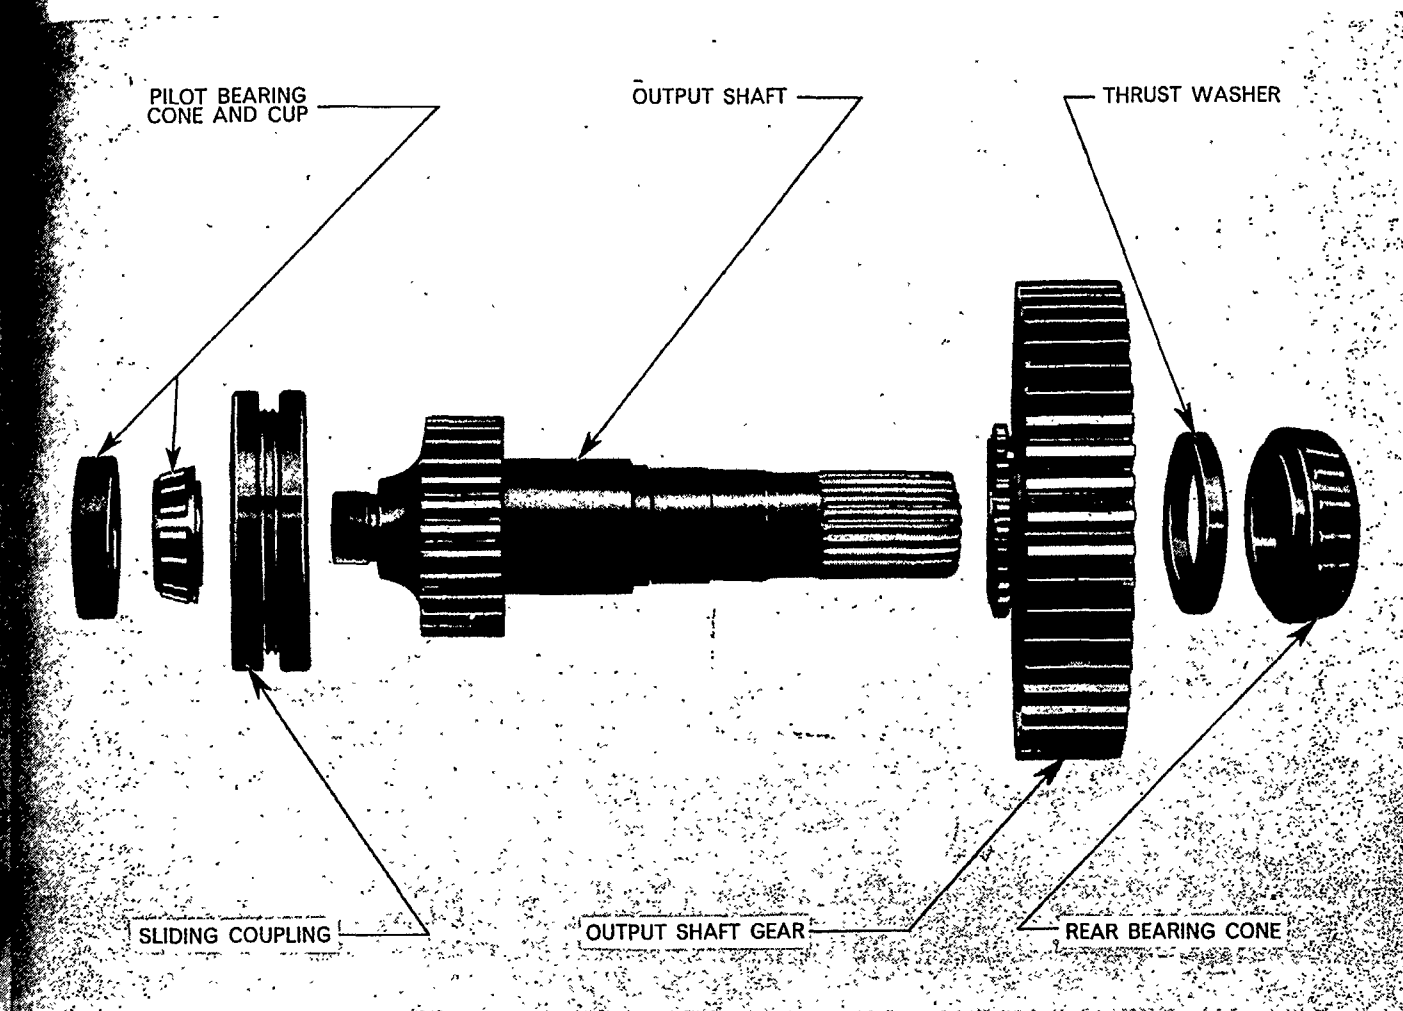
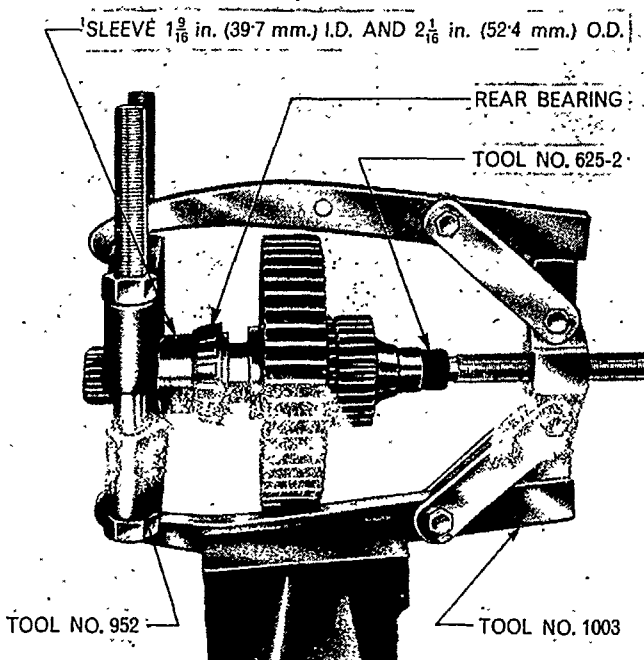

Figure 34
Figure 36
1. Examine the output shaft assembly, Figure 34, for wear or damage. To renew any defective parts, use
3. Assemble the output shaft gear so that the dog-teeth on the gear adjoin the dog-teeth integral with the shaft, Figure 34. Install the steel thrust washer aligning the flats on the washer with those on the output shaft. Pull the bearing into position using Tools Nos. 1003, 952, 625-2 and suitable sleeve $1\frac{7}{16}$ in. (39.7 mm) I.D. and $2\frac{1}{8}$ in. (52.4 mm) O.D. of convenient length, Figure 36.